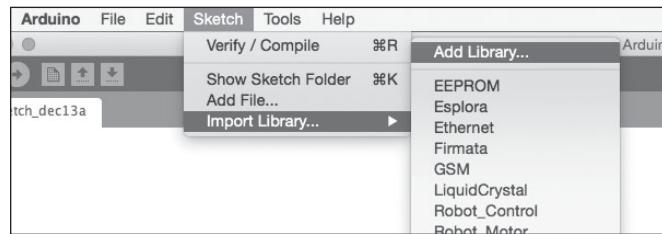

Figure 8-17: Importing the library
2. Open the Arduino IDE and then select **Import Library ▶ Add Library** from the Sketch menu, as shown in Figure 8-17.